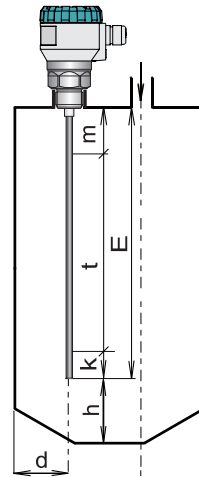

Fig. 1: Level meter installation with the rod electrode
- Otherwise, the level meter install as far as possible from the walls, to the middle between the wall and the vertical inlet, see Fig. 1 and 2.
- This is an area in which the continual measurement of the level is being performed. The maximum measuring range is determined by the length of the measuring electrode with subtraction of the dead zones at the beginning and end of the electrode, see fig. 1 and 2. This range is also the default setting of the level meter. The maximum measuring range can be reduced either automatically when sensitivity is increased, see the table on the second page, or manually by the user by changing the minimum and maximum level in the case of obstacles near of the end or particularly of the beginning of the measuring electrode.